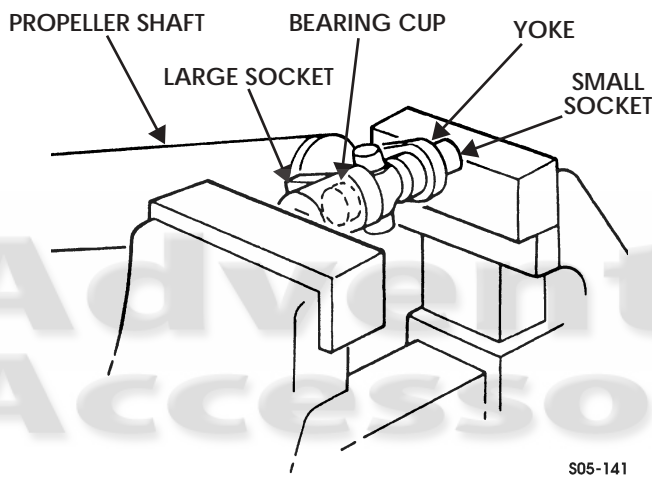

Figure 5-197: Bearing Installation
5. Position propeller shaft in vise with 1-1/8 in. socket between vise jaw and bearing cup being removed. Ensure open end of socket is facing bearing cup (Figure 5-197).
3. Place yoke in vise with 11/16 in. socket between vise jaw and bearing cup (Figure 5-197).
6. Place yoke in vise with 11/16 in. socket between bearing cup and vise jaw (Figure 5-197).